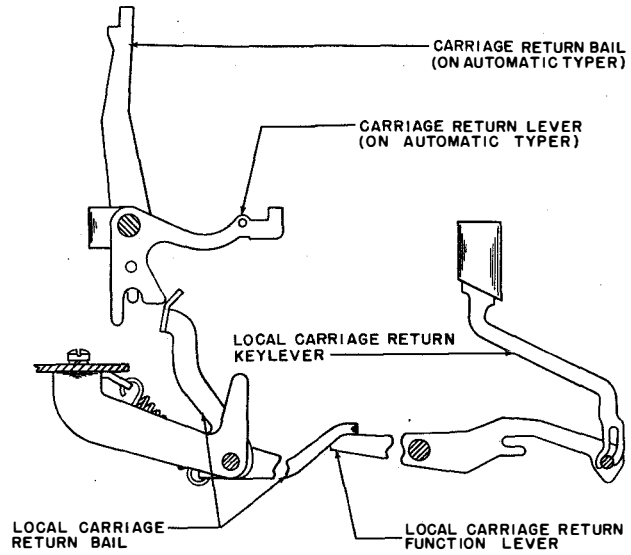

Figure 2-21. Local Carriage Return Mechanism
e. LOCAL CARRIAGE RETURN MECHANISM.—Operation of the local carriage return keylever (red) causes its function lever to raise the forward end of the local carriage return bail (figure 2-21). The bail rotates about its pivot point until the upper end engages the carriage return lever on the Automatic Typewriter. Thus, the carriage return mechanism on the local Automatic Typewriter is made to operate without disturbing the line circuit. The carriage return mechanism is fully described in paragraph 4.i.(4) of this section.